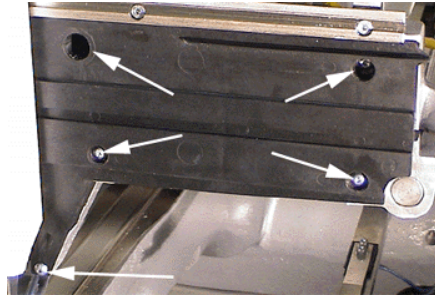

Figure 7-17
2. Remove the right upper arm front cover by removing the five screws attaching it to the machine. (See *Figure 7-17*).